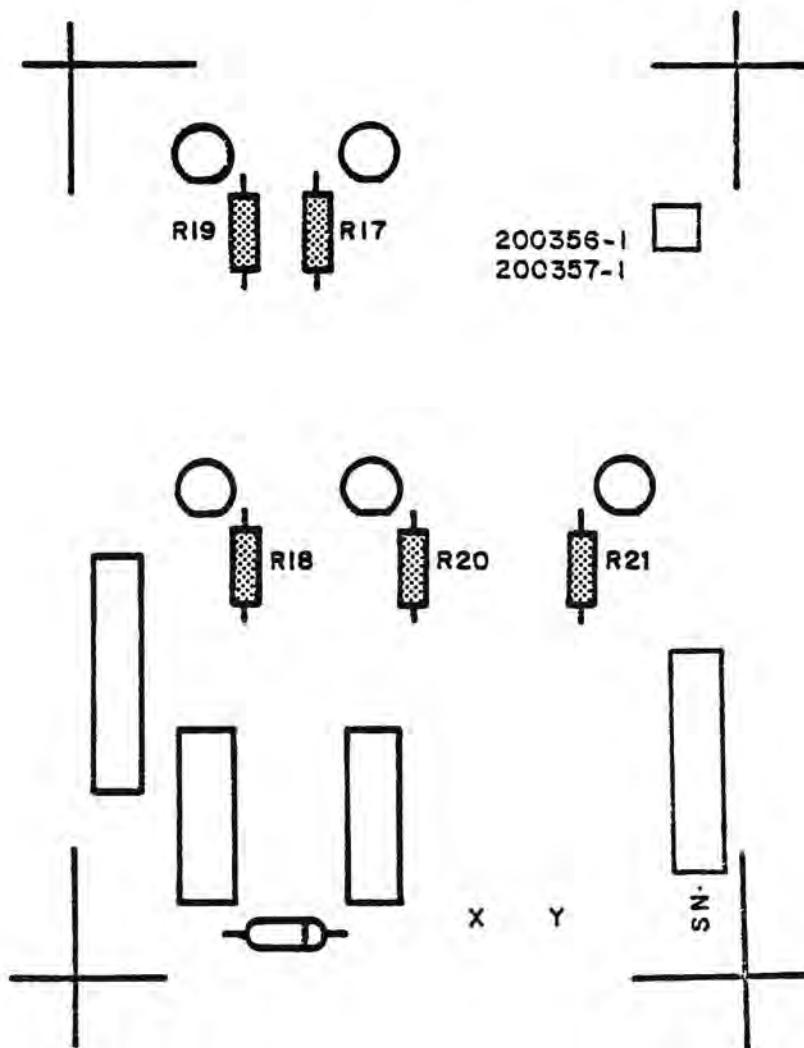

Figure 5-36 Resistor Installation
Install the five (5) resistors (Bag 2) according to the directions in Section 5-2, in the specified locations on the board. (See Figure 5-36)